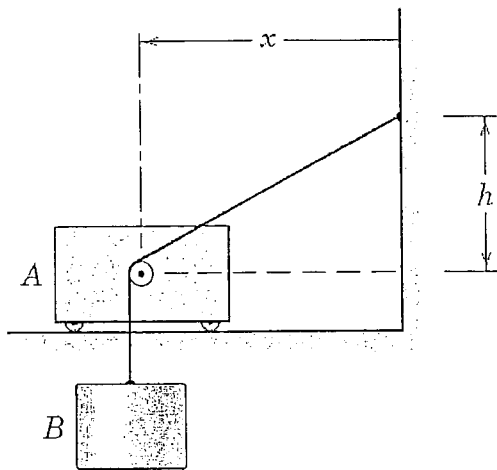

Fig. Q. 7
7. Neglect the diameter of the small pulley attached to body A and determine the magnitude of the total velocity of B in terms of the velocity v_A that body A has to the right as shown in **Fig. Q. 7**. Assume that the cable between B and the pulley remains vertical and solve for a given value of x . [8]